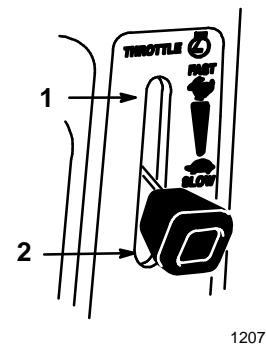

Figure 4
5. Move throttle lever to “Fast” (Fig. 4).
7. After the engine starts, move the choke lever to “OFF” (Fig. 4). If the engine stalls or hesitates, move the choke lever back to “ON” for a few seconds. Then move the throttle lever to desired setting. Repeat this as required.
1. Move the throttle lever to “SLOW” (Fig. 4).